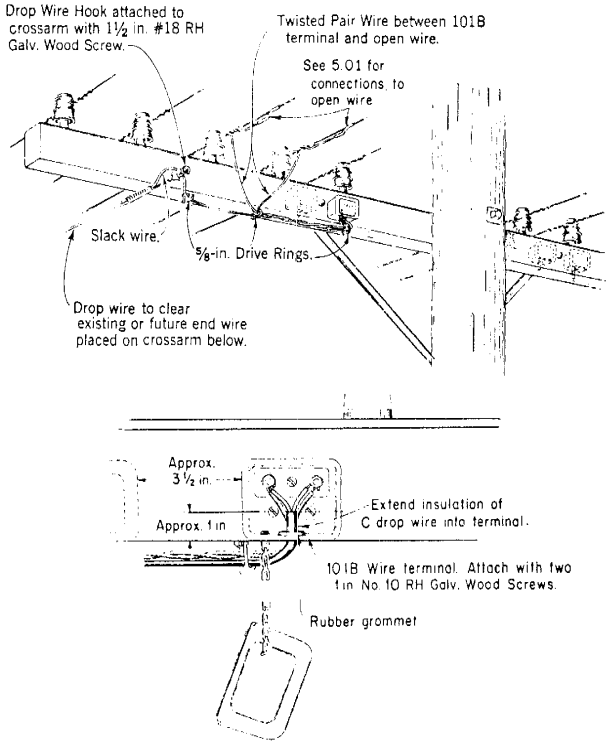

Fig. 1 - Where Drop Wire Is Distributed from Crossarms Other than DE Type
4.10 The wiring arrangement on crossarms equipped with insulator pins is illustrated in Fig. 1, 2, and 3.